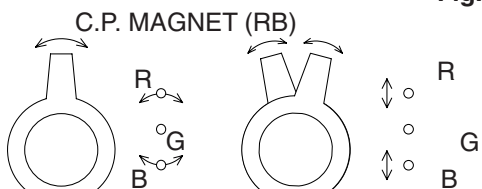

Fig. 7
1. Loosen the Ring Lock and align red with blue dots or Crosshatch at the center of the screen by rotating (RB) C.P. Magnets. (See Fig. 7)